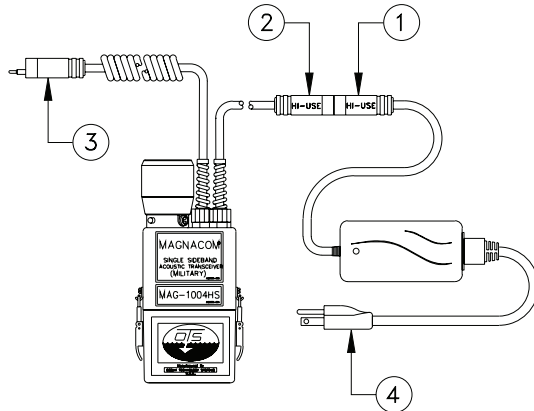

Figure 5
1. Connect the RCS-3U-HIU charger to the transceiver's EM Hi-USE® connector (Fig. 5, #1 and 2).
2. Connect the charger's power input cord (Fig. 5, #4) to the AC power source (90–260 VAC, 50–60 Hz).